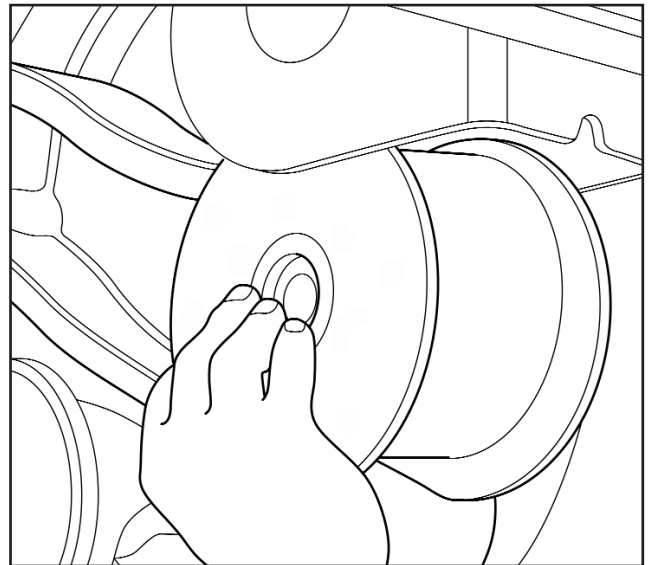
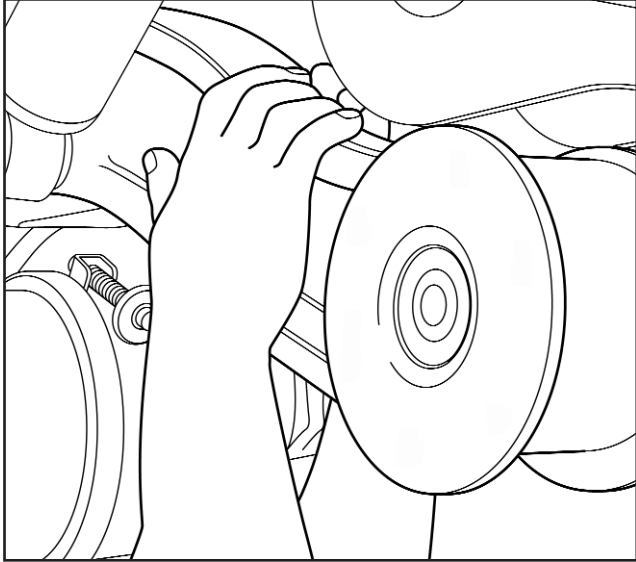
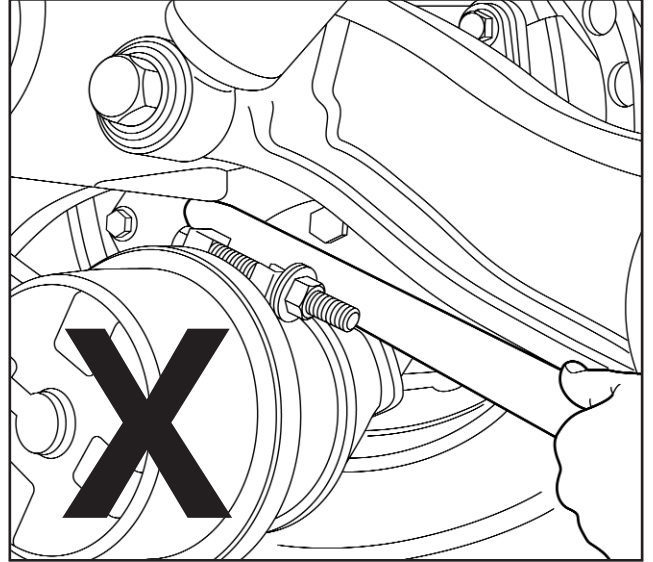

Fig 4.23
Fig 4.24
Fig 4.25
8. Carefully rotate the trailing arm until clear of the hanger bracket (Fig 4.23) and (Fig 4.24). **DO NOT** lever off the brake chamber as shown (Fig 4.25).